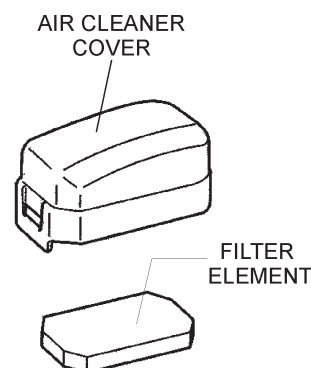

Figure 21. Engine Air Cleaner
1. Remove the air cleaner cover and foam filter element as shown in Figure 21.